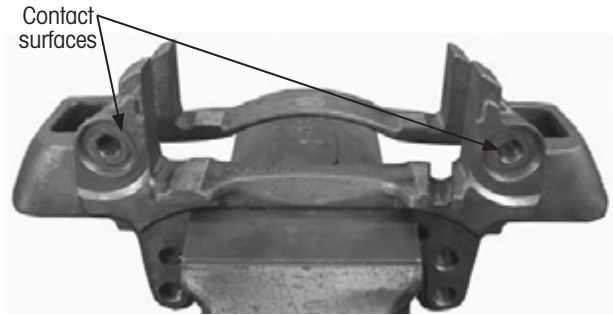
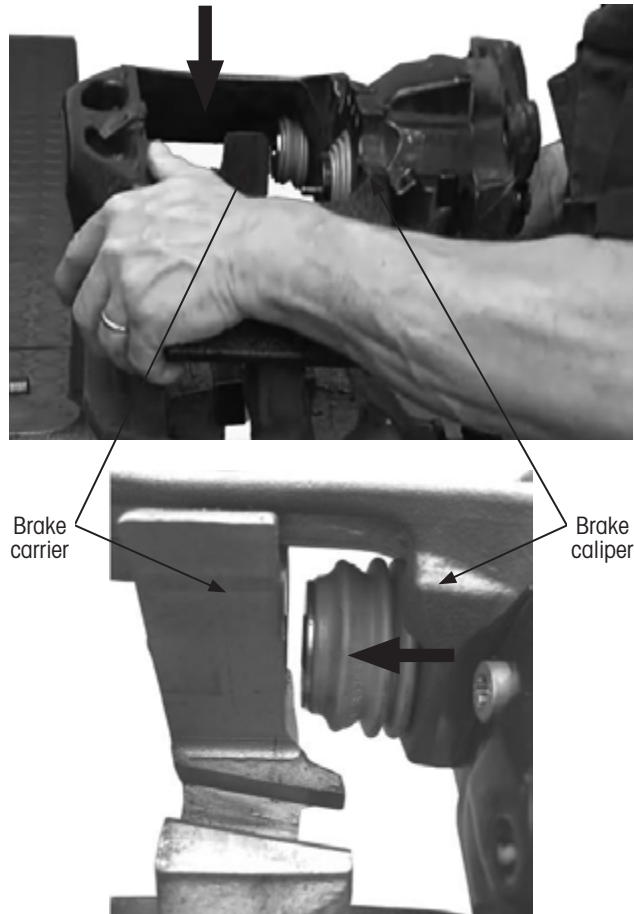

Figure 51: Guide pin contact surfaces
Figure 65: Installing caliper onto brake carrier
1. **Place** the brake caliper on the brake carrier with guide pins aligned to contact surfaces (Figure 65 and Figure 51 on page 25).